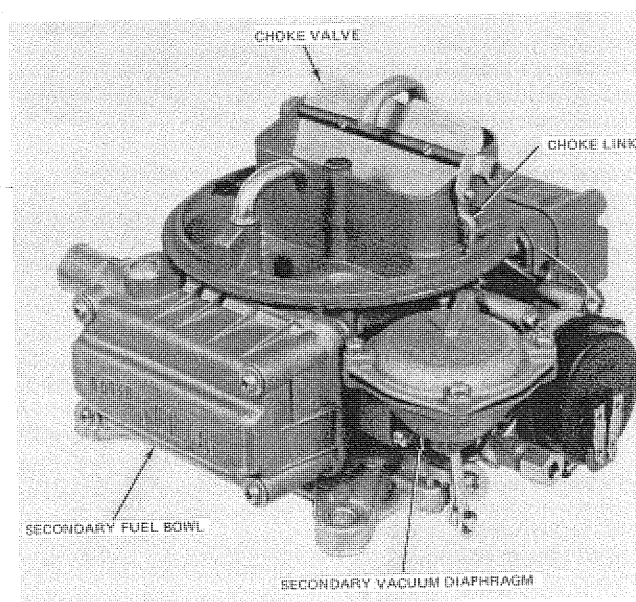

FIG. 18 Secondary Side Model 4160, Internal Fuel Inlet Needle and Seats
16. Remove choke rod and seal (Figure 18). Unless the choke valve is bent or damaged, **DO NOT remove. The choke valve screws are staked to prevent loosening and care is necessary to avoid breaking or stripping the threads in the choke shaft. If necessary to remove valve, remove staking with a file before loosening screws.**